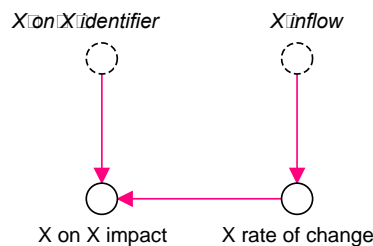

Figure 13: Computation of impact
- Determine the stock impact *Y on X impact* from the ghost of *Y on X identifier* and *X rate of change*, Figure 13: